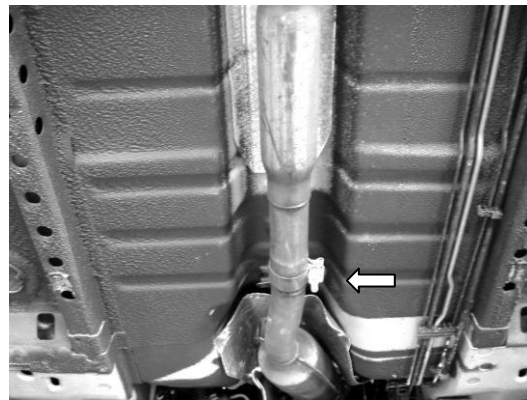

Figure 2
4. Unbolt the clamp shown in figure 2 behind the catalytic converter.